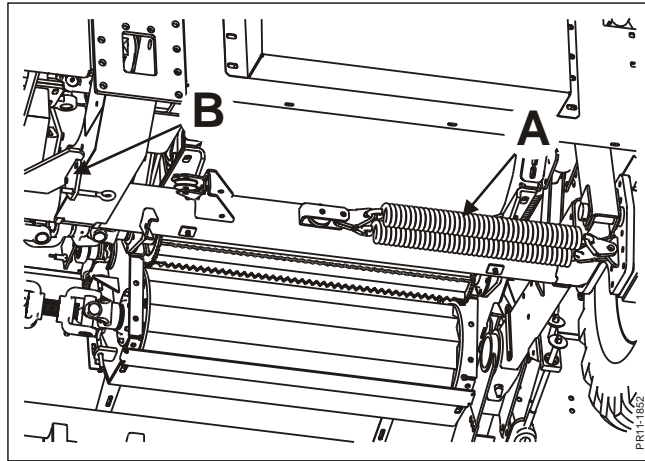

Fig. 3-15
**Fig. 3-15** When this equipment is fitted, it is important that an extra spring **A** is fitted for chute relief, in order to compensate for the added weight of the chute. Bracket **B** must be moved to the indicated position so that the wire is not too short.